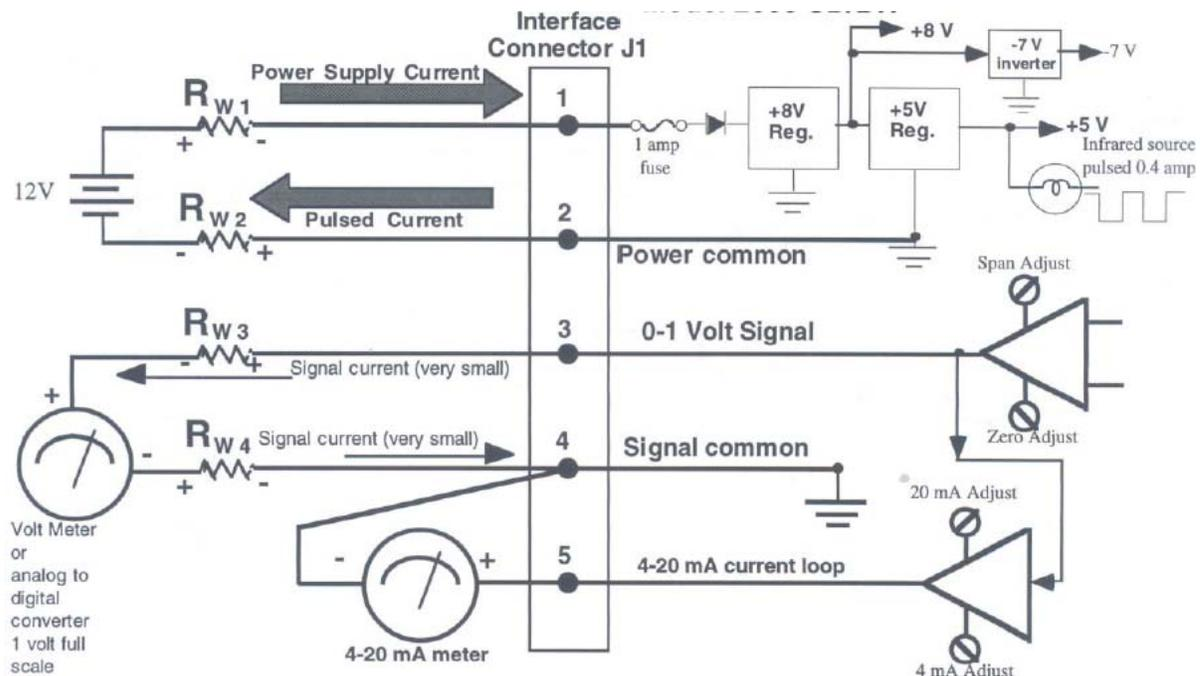

FIGURE 7
1. How to avoid Ground Loops: As seen in figure 7, you should keep the power supply circuit and the signal circuits separated. Even though the Power common and the Signal common are tied together on our printed circuit board, you must run separate wires for each one and make sure that the Power common wire is a large wire gauge and as short as possible. The object is to prevent the pulsed power supply current from getting into the signal path. The power supply current pulses, created by the infrared source turning on and off every 1.008 seconds, will follow the path of least resistance (represented by  $R_{W1}$  and  $R_{W2}$ , the resistance of the wires). The current flowing through the wire resistance creates a voltage drop (current times resistance) that would appear to be noise if the two loops were connected together. This is classically called a **ground loop** problem.